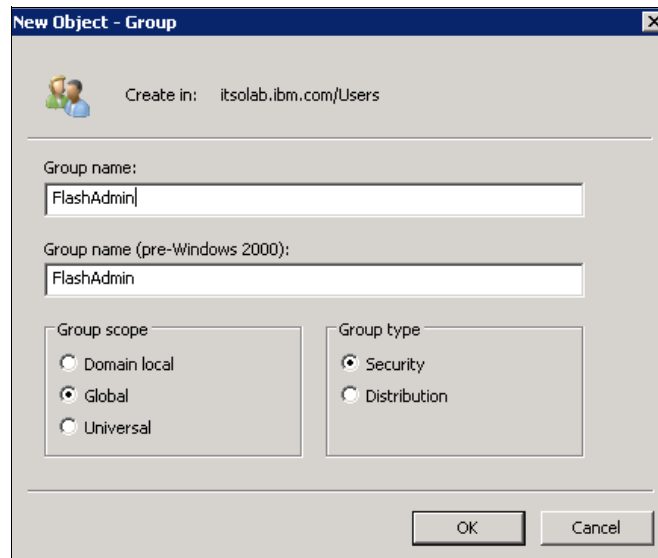

Figure 7-16 Active Directory to create a FlashAdmin group
2. In the Group window that opens (see Figure 7-16), enter FlashAdmin for the new group name, keep the remaining default values, and click **OK**.